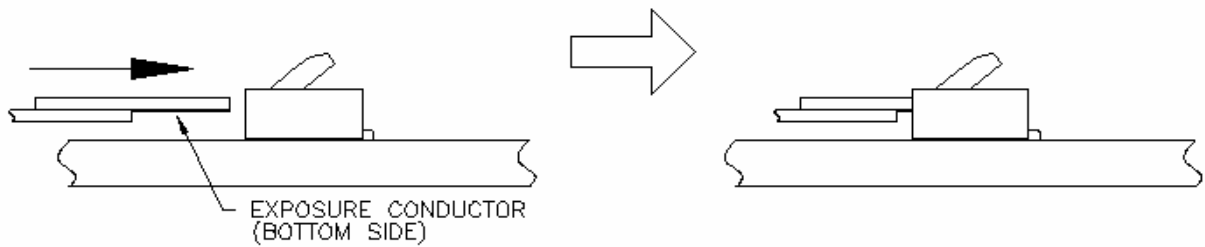

Figure 3.
- 2) Assure that the FPC/FFC is fully inserted parallel to mounting surface, with the exposed conductive traces facing down. (see figure 3).